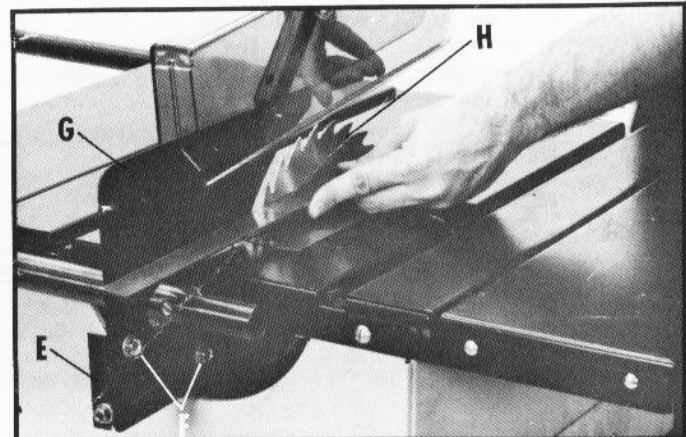

Fig. 16
3. Raise the saw blade to the highest position and assemble the splitter, guard and anti-kickback finger assembly to the bracket using the two screws and washers (F) Fig. 16. Adjust the splitter so that it does not rest against the table.
4. Using a straight edge, align the splitter (G) to the saw blade (H) Fig. 16, and tighten the screw and nut that holds the bracket (E) to the trunnion. If necessary the bracket (E) can be shifted in order to align the splitter to the saw blade.